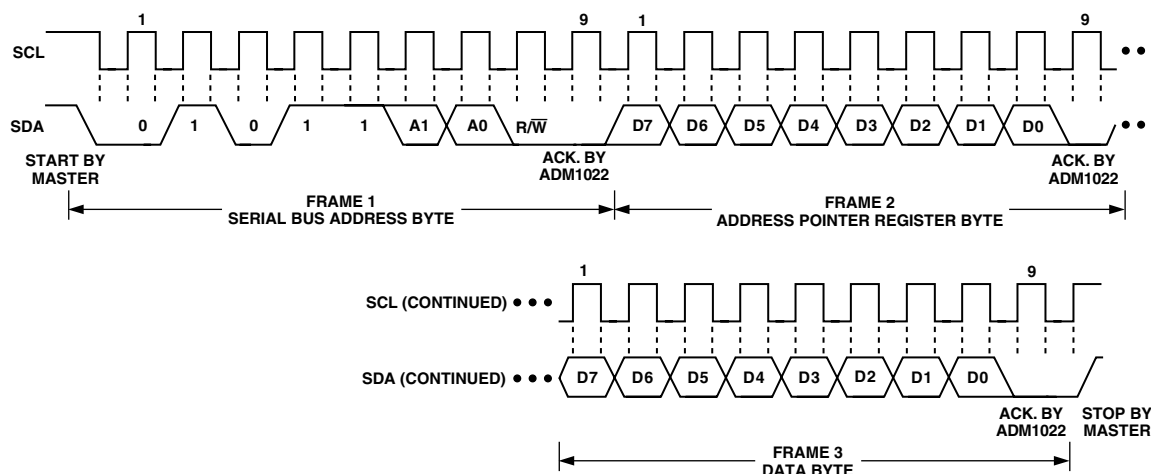

Figure 11a. Writing a Register Address to the Address Pointer Register, then Writing Data to the Selected Register
This is illustrated in Figure 11a. The device address is sent over the bus followed by R/\overline{W} set to 0. This is followed by two data bytes. The first data byte is the address of the internal data register to be written to, which is stored in the Address Pointer Register. The second data byte is the data to be written to the internal data register.
2. In Figures 11a to 11c, the serial bus address is shown as the default value 01011(A1)(A0), where A1 and A0 are set by the three-state ADD pin.